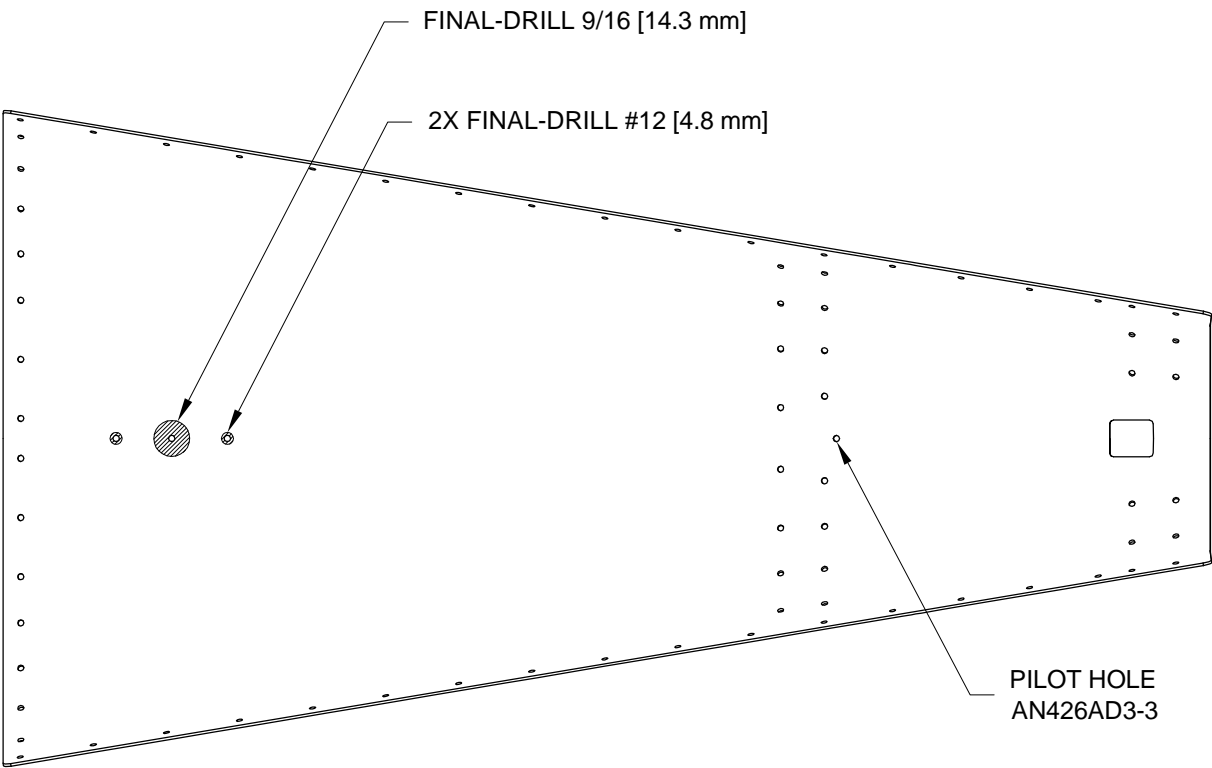

FIGURE 1: F-01479 AFT BOTTOM SKIN
Step 3 (Tri-Gear): Use a rivet to fill the the pilot hole in the F-01479 Aft Bottom Skin as shown in Figure 1.